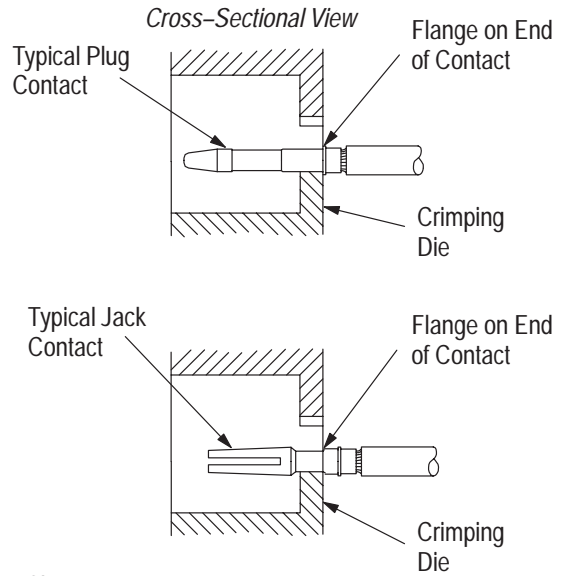

Figure 2
**4.1. Crimping the Center Contact** (Figure 2)